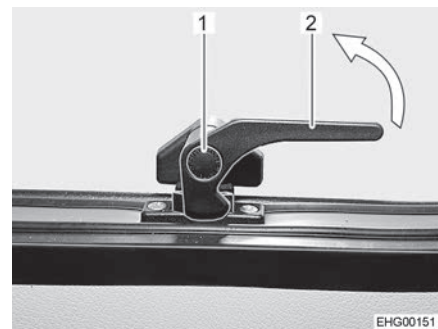

Fig. 30 Catch lever, at the bottom ("closed" position)
- Press and hold the safety knob (Fig. 30,1) on the bottom catch lever (Fig. 30,2).
- Turn the bottom catch lever (Fig. 30,2) a quarter turn towards the centre of the window.